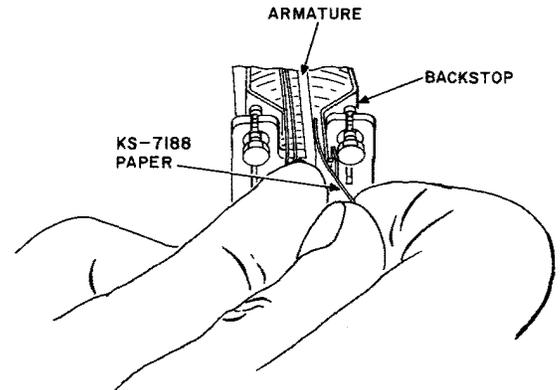

Fig. 53—Method of Cleaning Front and Back Stops on B-, G-, and J-Type Relays
7.15 Frontstops and Backstops on B-, G-, and J-Type Relays: Clean the front and back stops with a piece of KS-7188 paper as shown in Fig. 53 while holding the armature operated or unoperated as required.